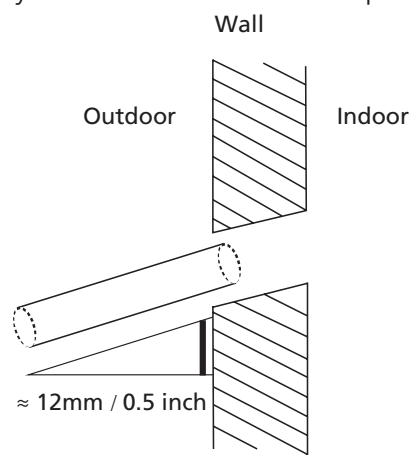

Fig. 5.5
- Using a 65mm (2.56") or 90mm(3.54") core drill, drill a hole in the wall. Make sure that the hole is drilled at a slight downward angle, so that the outdoor end of the hole is lower than the indoor end by about 12mm (0.5"). This will ensure proper water drainage (See Fig. 5.5). Place the protective wall cuff in the hole. This protects the edges of the hole and will help seal it when you finish the installation process.